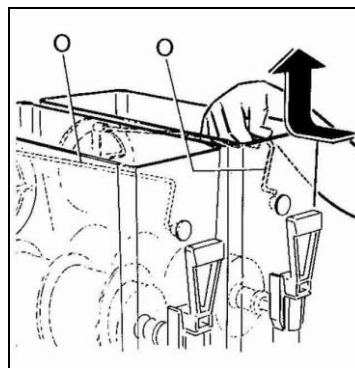

Fig. 1
The machine has to be placed on a sturdy, horizontal surface making sure it is well ventilated by leaving a gap of 20 cm around it and do not install it near heat sources (fig.1); we recommend you to maintain a room temperature between 24 and 32°C.
- **P**ull out the upper mixing device (O) by pushing it slightly backwards, to remove it from its fixed position (see figure 1).